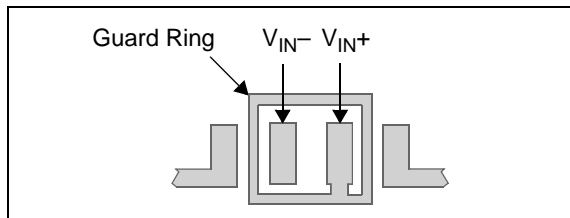

FIGURE 4-4: Example Guard Ring Layout.
The easiest way to reduce surface leakage is to use a guard ring around sensitive pins (or traces). The guard ring is biased at the same voltage as the sensitive pin. Figure 4-4 shows an example of this type of layout.
1. Inverting Amplifiers (Figure 4-4) and Transimpedance Gain Amplifiers (convert current to voltage, such as photo detectors).